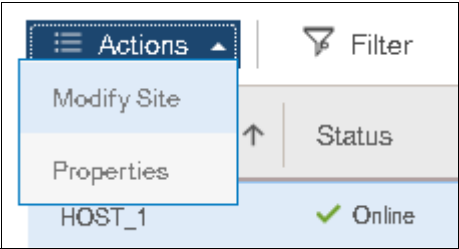

Figure 6-15 Optional host site attributes
4. Assign hosts to a site (Figure 6-15).